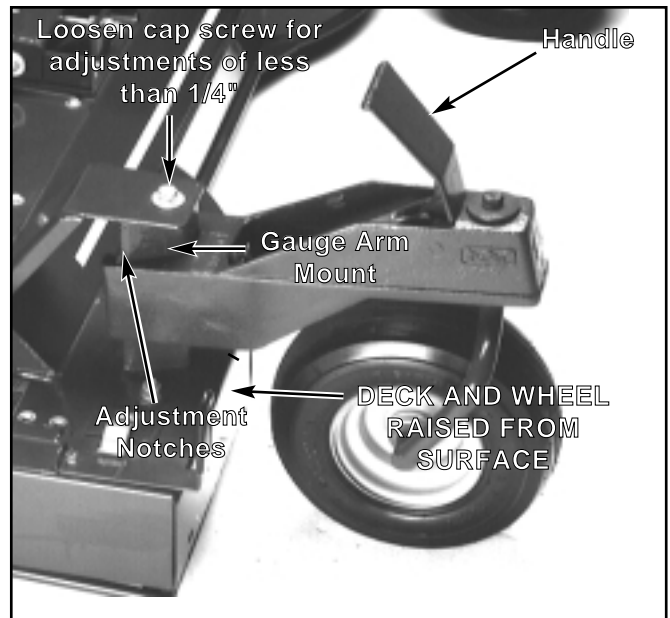

Figure 3-7
3. Pull up and forward on gauge wheel handle and lift or lower wheel to desired height (Fig. 3-7). Both gauge wheels should be adjusted to same height for uniform cutting.